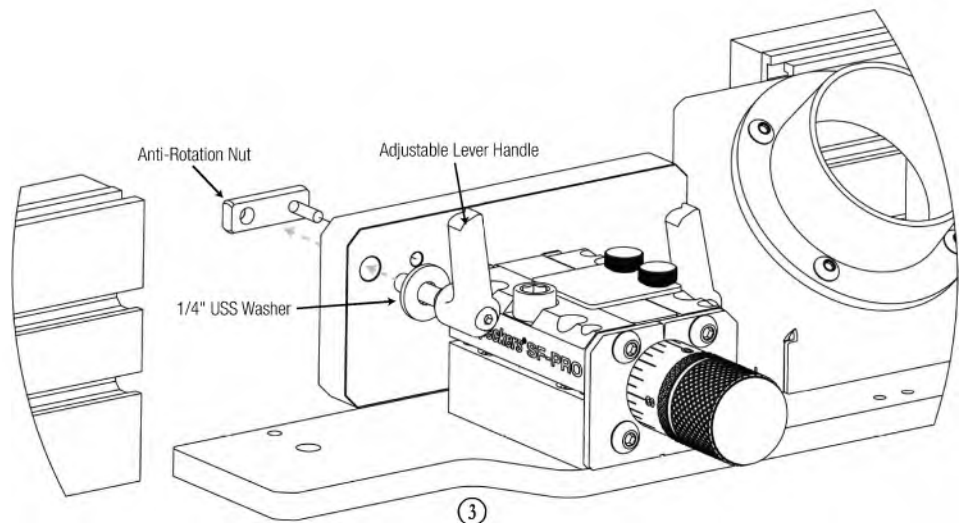

FIGURE 2
- ① 18" Fence with Sub Fence
- ③ SF-PRO Base
- 1/4-20 x 1" Adjustable Lever Handle (4)
- 1/4" USS Washer (4)
- SF-PRO Anti-Rotation T-Nut (4)
1. Install the Adjustable Lever Handles, 1/4" USS Washers and Anti-Rotation Nuts into each of the two fence brackets. The smooth dowel of the Anti-Rotation Nut goes into the smaller of the two holes at each location. **FIGURE 2**